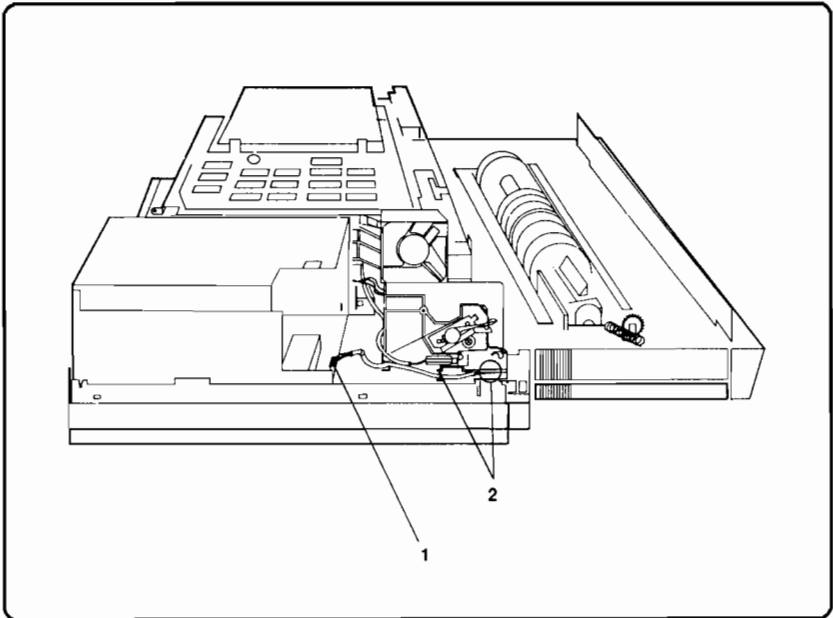

Figure 6-78. Paper Path Door Removal (continued)
12. Squeeze connector J101 to unplug it from the Power Supply (see Figure 6-78, callout 1).
13. Remove the cable from its retaining points as shown (Figure 6-78, callout 2).